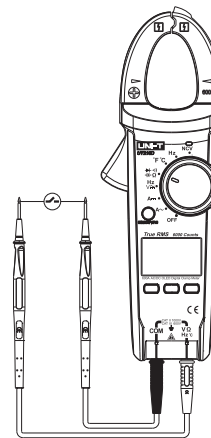

Fig. 8
7. Conductivity inspection (shown as Fig. 8)